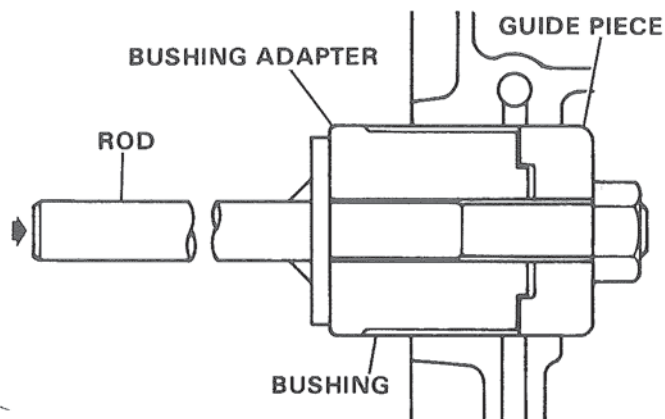

Figure 44. Removing Camshaft Bearing.
4. Remove bearing using Special Tool No. MH061070, pull bearing out. Figure 44.